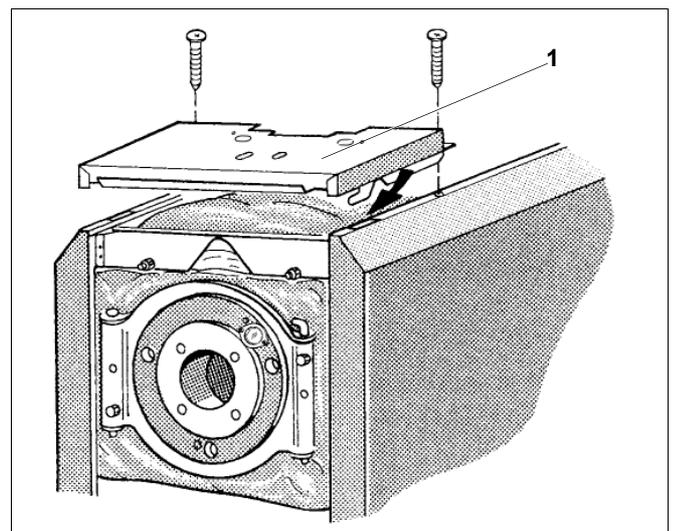

Fig. 12 Install the boiler front cover
- Position the front boiler cover (Fig. 12, **item 1**) on top of the side panel angle and pull forward, until the l.h. and r.h. hooks lock into the slots (Fig. 12, arrow).
- Secure the front boiler cover (Fig. 12, **item 1**) by means of two self-tapping screws, which should be inserted through the boiler cover brackets and the side panel angle into the lateral tie-bars.